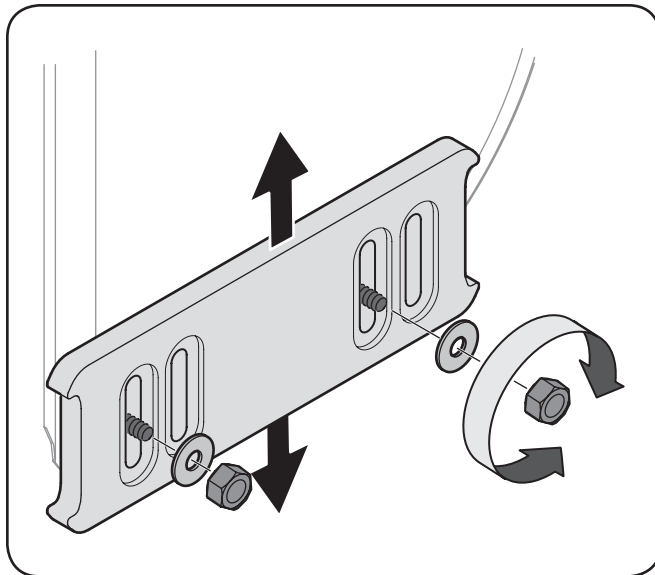

Figure 3-14
1. Loosen the four hex nuts (two on each side) and carriage bolts. Move skid shoes to desired position. See Figure 3-14.